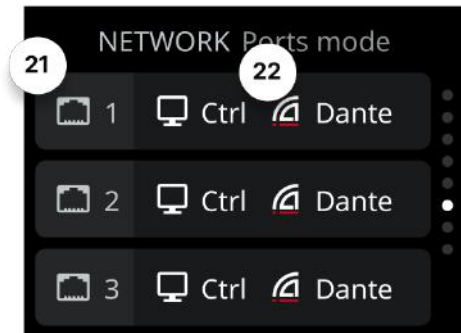
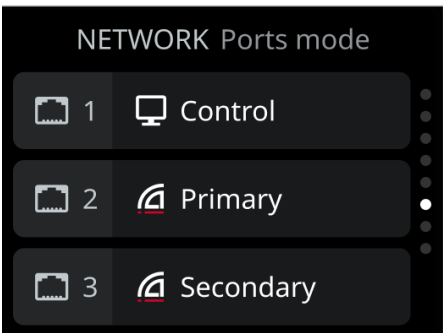
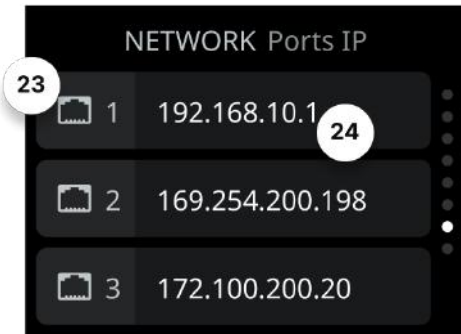
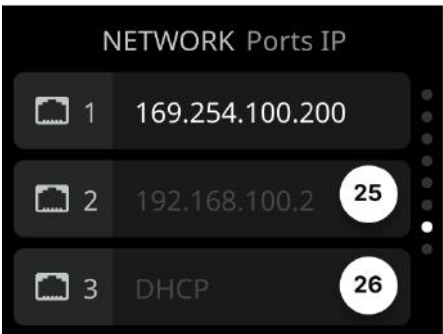

Fig. 1.13a - Ports in Switched Mode
Fig. 1.13b - Ports in Split Redundant Mode
Fig. 1.14a - Ports IP
Fig. 1.14b - Cable disconnected
The network page consists of two sub-pages: Ports mode (Fig. 1.13a & b) and Ports IP (Fig. 1.14a & b). Each network port is represented by a block (21, 23), composed of the corresponding network protocol (22) and the associated IP address (24).
Fig. 1.13a shows the ports in “Switched mode,” where each port gets the same protocol and the same IP address. Fig. 1.13b shows the “Split redundant” mode, where each port has a different protocol and a different IP address. Fig. 1.14b shows what happens when the network cable is disconnected and the IP address is in static mode (25) or DHCP mode (26).